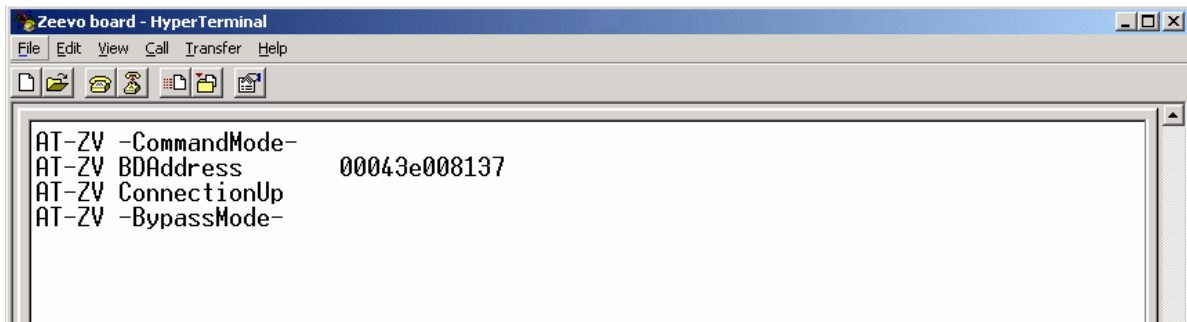

Figure 8. The Connect Event Appears
- On the transmitting terminal, select the **Transfer** menu and then select **Send File**. A Send File window appears. See Figure 8.
- Choose **Zmodem** from the list of protocols. Click on **Send**. See Figure 8.